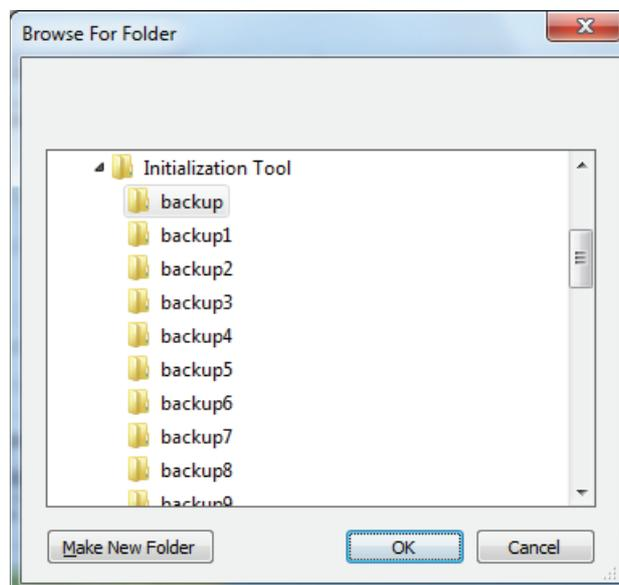

Fig.323 [Browse For Folder] screen
- 3 Specify a backup folder. (Fig.323)**